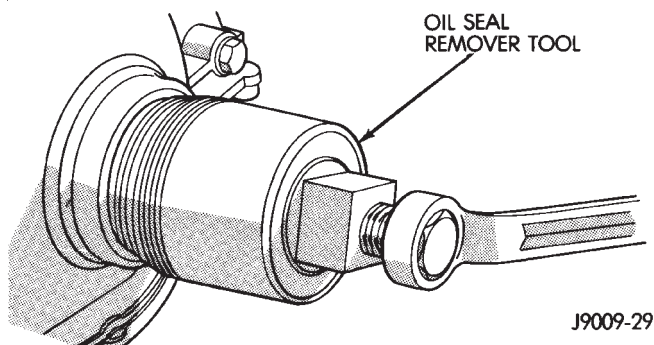

Fig. 2 Timing Case Cover Oil Seal Removal
- (1) Disconnect negative cable from battery.
- (2) Remove the serpentine drive belt.
- (3) Remove the vibration damper.
- (4) Remove the radiator shroud.
- (5) Remove the oil seal (Fig. 2).